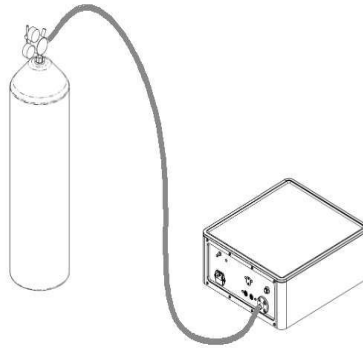

Figure 4-3 The insufflator connects with steel cylinder via the reducing valve
4. Confirm that the insufflator and the CO₂ gas cylinder are connected correctly, and slowly open the gas cylinder valve. As shown in Figure 4-3.